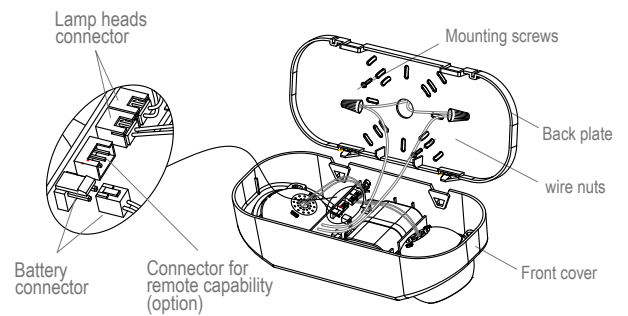

Fig 2
Wall Mount-Back Power Feed (see Fig 2)
7. Connect battery connector.(see Fig 2).
Connecting Remote heads (see Fig 2)